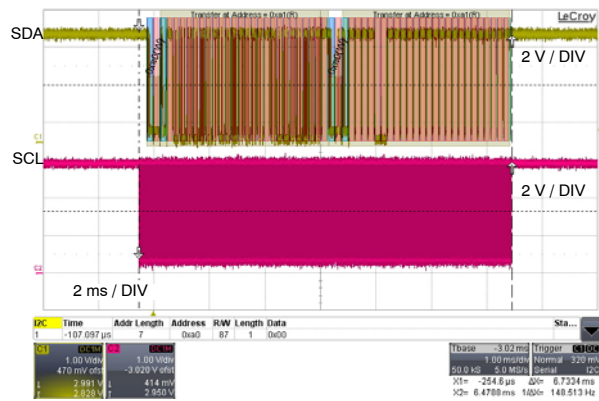
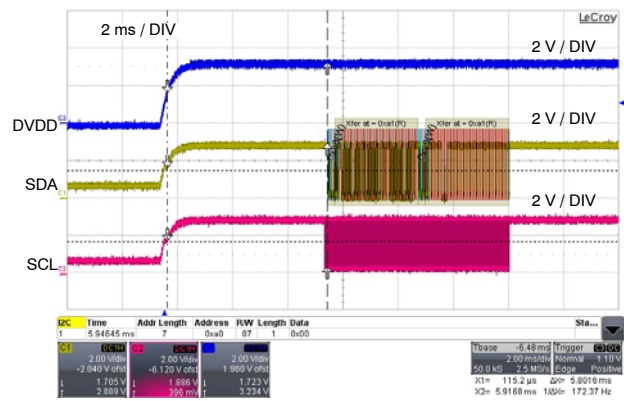

Figure 18. Duration of EEPROM Download
Figure 19. Power Up Sequence
The Power on Reset master mode auto-read function is illustrated with the timing diagrams Figure 19. It's 5 ms after the POR conditions (DVDD > 1.5 V) is met that the NCS12802 attempts to read the external EEPROM. It is followed with a request from the NCS12802 containing an EEPROM address followed by an acknowledge (100 μs). If the communication link with the EEPROM is well established, the download is completed in 6.7 ms (See Figure 18). Meanwhile after the five first milliseconds after Power up Condition, if the EEPROM device ID is not acknowledged, the device will go back to slave mode. The NCS12802 will remain in slave mode until another General Call Reset (GCR), Read Again (RA) or Power On Reset (POR) condition arrives.